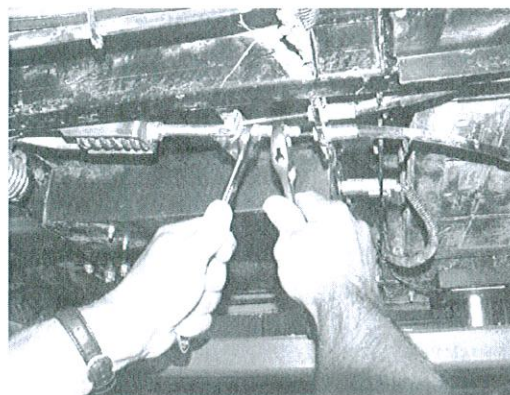

Fig. R10 Adjusting cable
11. Adjust brake cable tension so that brake pads drag against rotor. (See Fig. R10) Then firmly actuate brake pedal a few times. Loosen brake cables just enough that the rotors spin freely. Firmly actuate pedals each time you make an adjustment. Cables should be tight enough for good pedal feel but not cause brake drag.